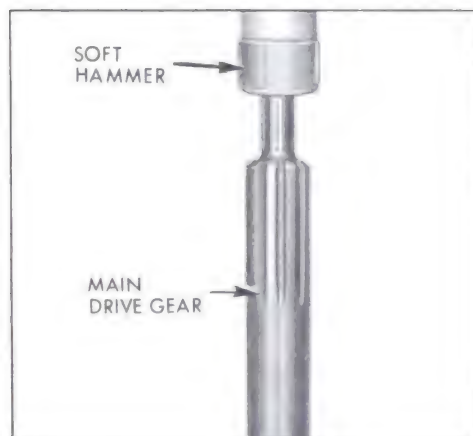

Figure 4-86—Removing Main Drive Gear
16. With a soft hammer, tap main drive gear down from front bearing as shown in Figure 4-86.